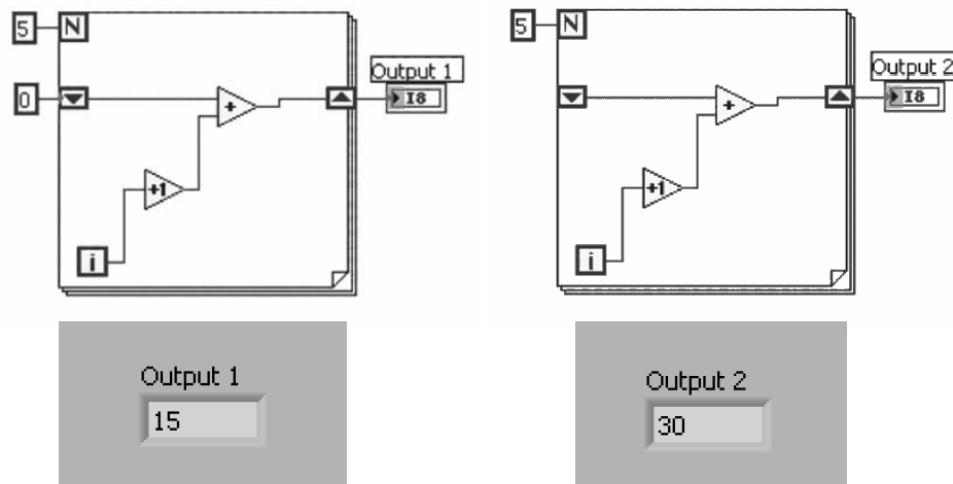

Figure 4.13 Initializing shift registers.
- If you have multiple operations that use previous iteration values within a loop, use multiple shift registers to store the data values from those different processes in the structure as shown in Figure 4.13.